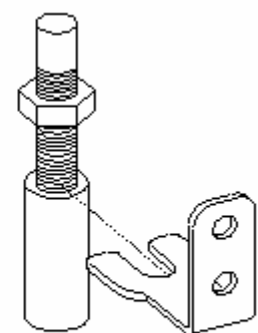

Fig. 4.3.3
3. Mount the feedback lever bracket (Fig. 4.3.3)
3. Mount the feedback lever bracket (Fig.4.3.3).